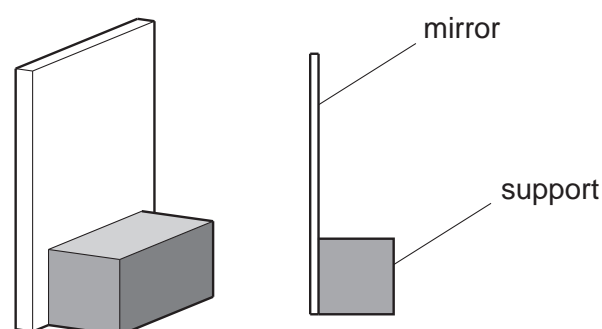

Fig. 4.2
- (v) Plane mirror fixed to a wooden support so that it stands vertically, as shown in Fig. 4.2. The height of the mirror must be at least the height above the bench of the top of the lens in its holder. The width of the mirror must be at least the diameter of the lens.